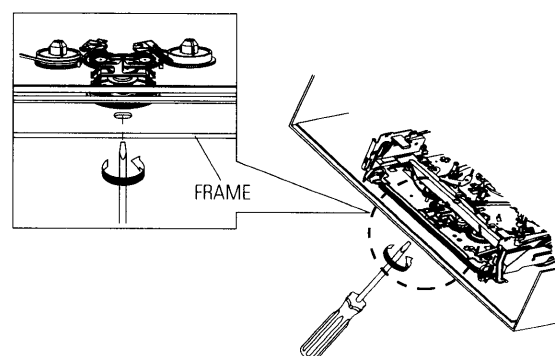

Fig. 4-38
- 3) When Slider S, T are approached in the position of unloading, rotate holder Clutch counterclockwise after inserting screw driver in the hole of frame's bottom in order to wind the unwound tape. (Refer to Fig. 4-38)